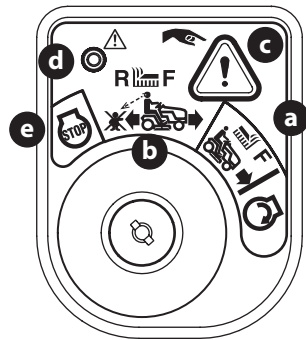

Figure 20
- Turn the key from the NORMAL MOWING MODE  (a) position to the REVERSE CAUTION MODE  (b) position of the ignition switch module (Figure 20).
- Press the REVERSE PUSH BUTTON  (c) at the top, right corner of the ignition switch module. The red indicator light (d) at the top, left corner of the ignition switch module will be ON while activated (Figure 20).
- Always look down and behind before and while backing to make sure no children are around. After resuming forward motion, return key to the NORMAL MOWING MODE  (a) position (Figure 20).
The REVERSE CAUTION MODE  (b) will remain activated until (Figure 20 on page 18):